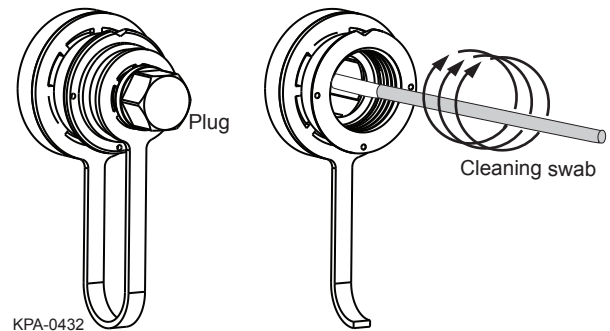

Figure 58
- Step 1:** Remove the protective plug from the OptiFit adapter where the connector will be mated (Figure 58).